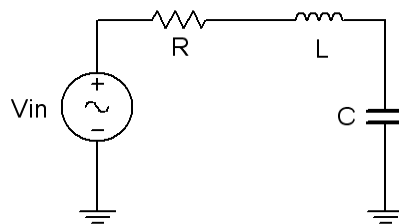

Figure 6.3
8. Using Figure 6.3 with both the 10 nF capacitor and 10 mH inductor, repeat steps 1 through 6 in similar manner, using Tables 6.5 and 6.6. **Using a four channel oscilloscope:** To obtain proper readings, place the first probe at the input, the second probe between the resistor and inductor, and the third probe between the inductor and capacitor. Probe three yields V_C . Using the *Math* function, probe two minus probe three yields V_L , and finally, probe one minus probe two yields V_R . Assigning *Reference* waveforms can be useful to see all of the signals together. **Using a two channel oscilloscope:** Unfortunately, it will be impossible to see the voltage of all three components simultaneously with the source voltage using a two channel oscilloscope. To obtain proper readings, place the first probe at the input and the second probe across the capacitor in order to see the phase and magnitude of V_C . Then, swap C and L (placing the second probe across the inductor) to see V_L , and finally, swap L and R (with the second probe across R) in order see V_R .